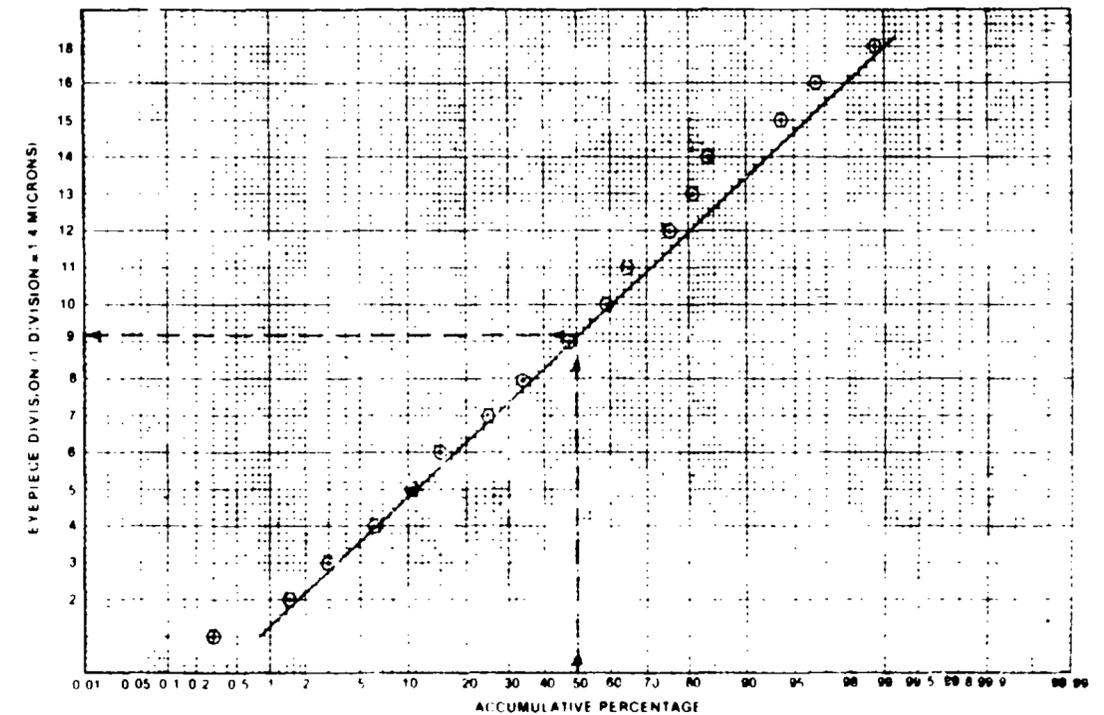

Figure 1
To determine the Mass Median Diameter (MMD), the accumulative percentages from the last column in Table 1 are plotted against the eyepiece divisions (D) on arithmetic probability paper as in Figure 1. Directly across from the 50 percent point on the line is the median droplet size in eyepiece divisions which must be converted to microns. In Figure 1, 9.2 eyepiece divisions times the conversion factor of 1.75 equals a Mass Median Diameter of 16.1 microns.